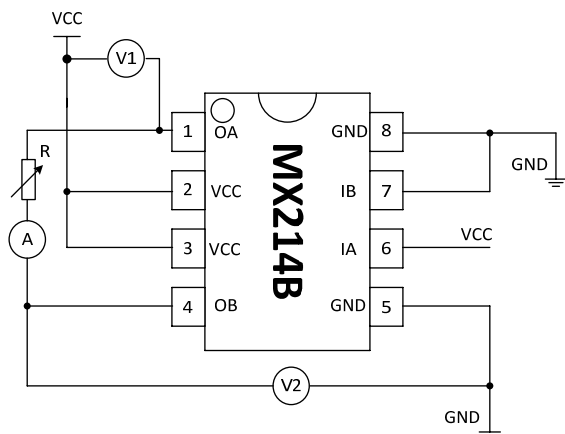

Fig. 3 (Output saturation voltage $V_{O(sat)}=V1+V2$)
NOTES: (1) The output saturation voltage is the sum of output high- and low-side saturation voltages, i.e. the sum of the measured values in voltmeters V1 and V2 in Fig.3.
(2) By adjusting adjustable resistor R in Fig. 3, the stated current can be obtained from reading of ammeter.